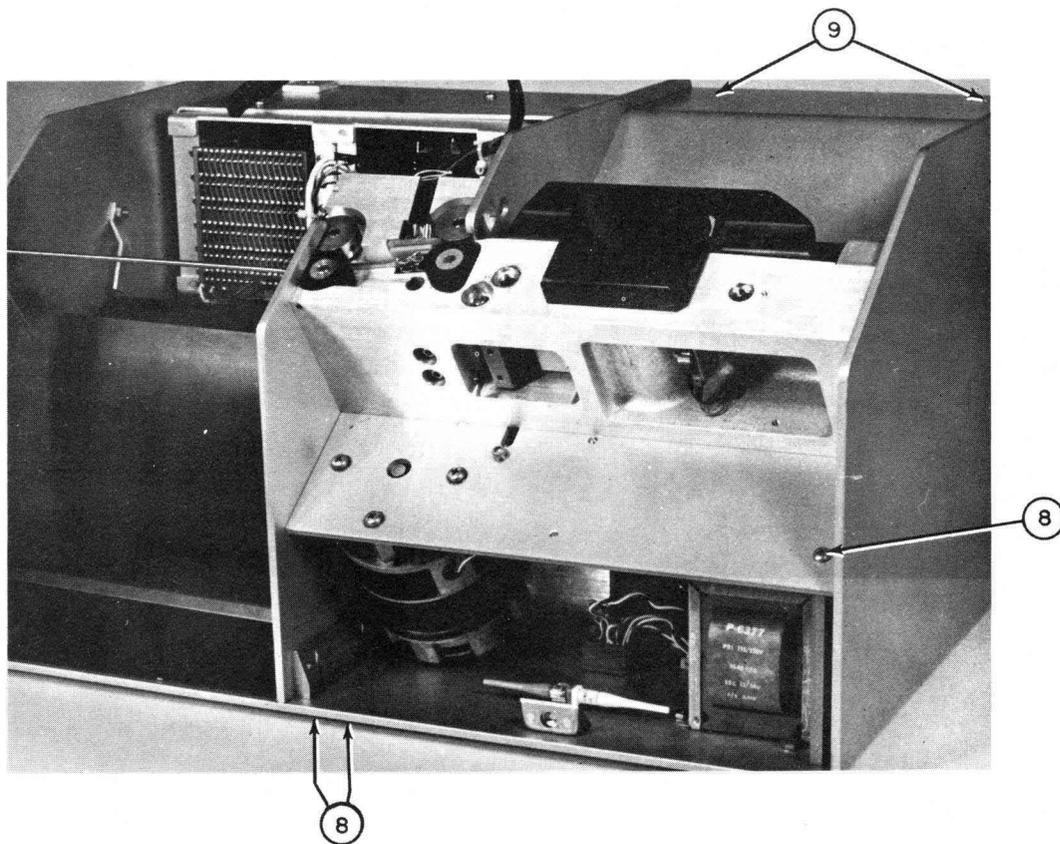

Figure 28. Front View, Main Mounting Plate Removal
11. Remove three 8 x 32 Phillips pan head screws (8), one from main mounting plate, and two from under mainframe, figure 28.
12. Remove two 8 x 32 flat head screws (9) from top of main mounting plate, figure 28.